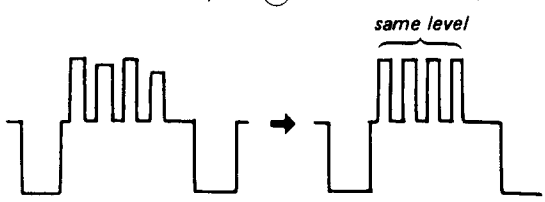

Fig. 1
2. Connect oscilloscope at pin ③ of BA-6 connector.
4. Adjust RV519 (HA board) for the waveform at connector BA-6 pin ③ to become as Fig. 1.